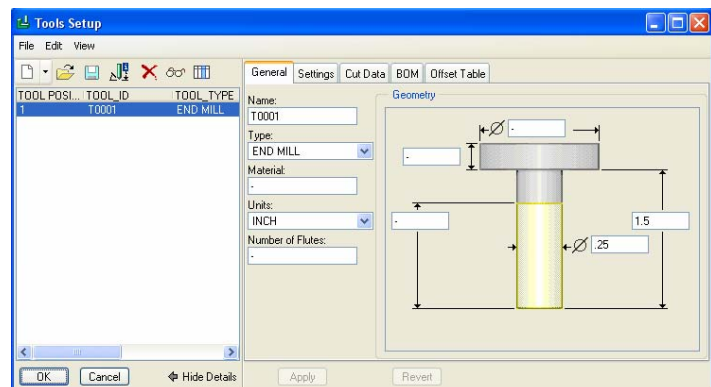

Figure 6a: Tool Setup Dialog Box
Step 6: Enter the tool parameters shown in Figure 6a.